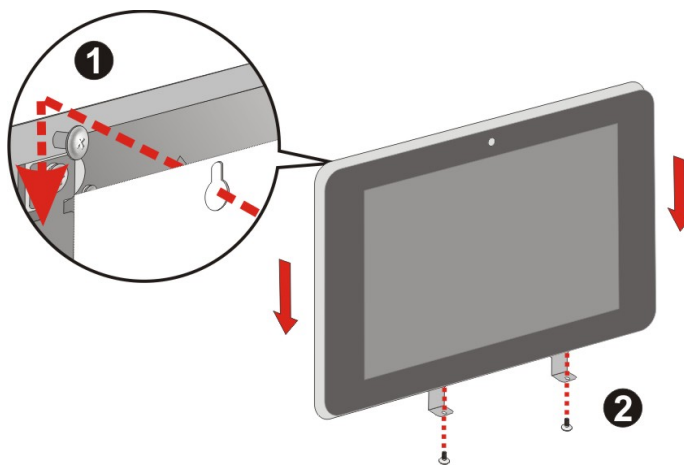

Figure 3-6: Mounting Panel PC
Step 5: Carefully attach the panel PC to the mounting screws and gently pull the panel PC downwards until the panel PC rests securely on screws. Ensure that all four of the slotted holes fit snugly into their respective mounting screws (Figure 3-6 ①).
Step 6: Secure the panel PC by installing the two retention screws (M3*4) came with the panel PC into the screw hole on the bottom of the bracket (Figure 3-6 ②).